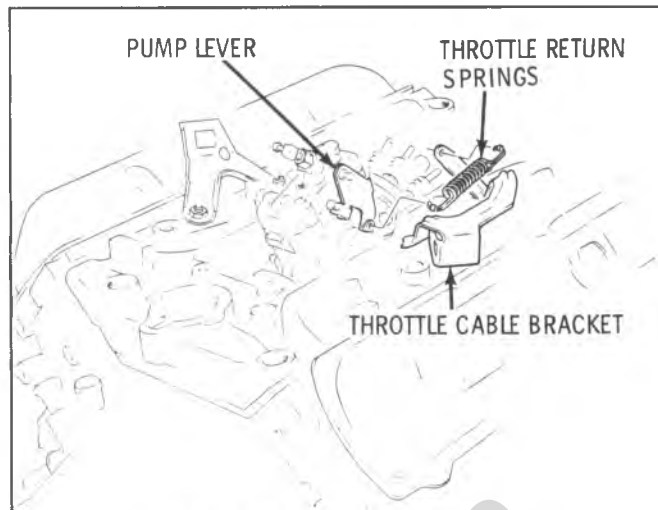

Fig. 6A6-21--Throttle Return Springs
4. Connect pipes to flow control valve in air crossover and ventilation filters in the valve covers. (Fig. 6A6-19).